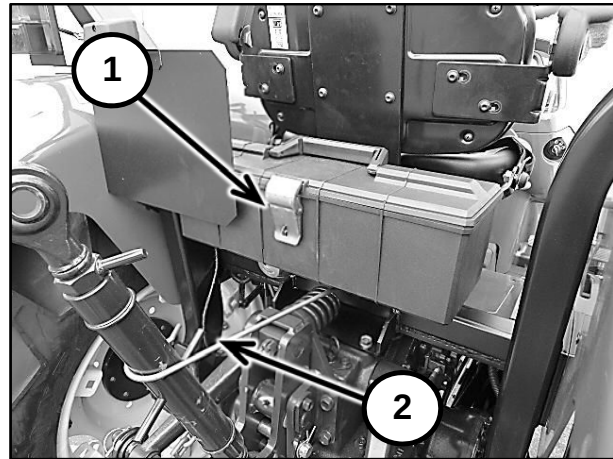

Figure 2-44
A tool box (1) in Figure 2-44, with a latching lid, is located behind the seat and between the ROPS uprights. The tool box also incorporates a hanger bracket (2) in Figure 2-44, to support the top link of the three-point hitch, when not attached to an implement